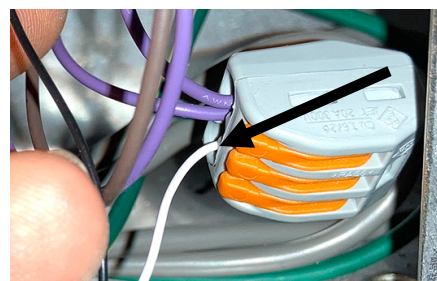

Figure 14
23. Insert the white wire from the **NEW** harness into the Wago connector location where the red wire was removed in step 21 and lock the connector. Tug gently on the wire to ensure the wire is secured into the connector (see Figure 14).